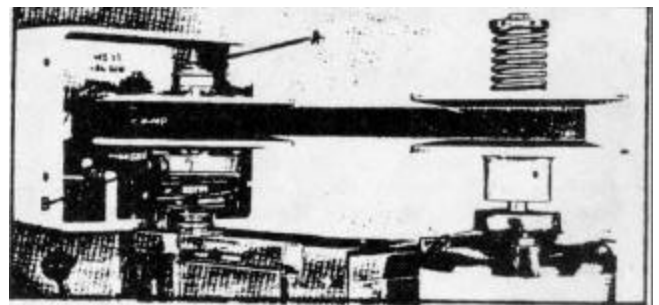
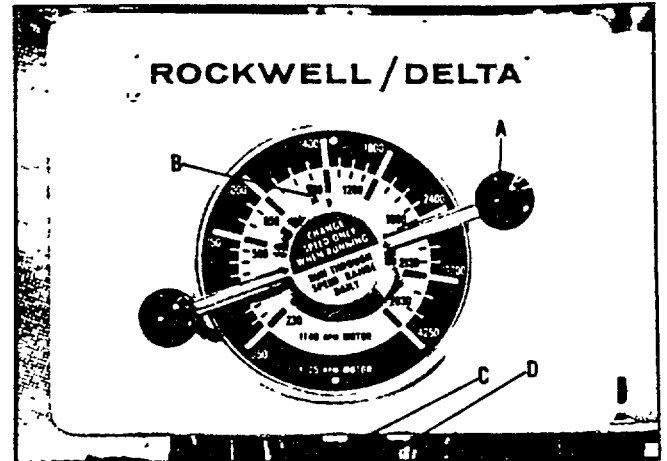

Fig. 14
Fig. 15
5. Loosen nut (A) Fig. 14. Then turn the pilot wheel until the pointer (B) Fig. 15, is set to the lowest speed. (350 rpm if a 1750 rpm motor is being used, or 230 rpm if an 1140 rpm motor is being used.) Now tighten nut (A) Fig. 14, just enough so that it adjusts the top half of the spindle pulley downward, until it just touches the lower pulley half. NOTE: This adjustment is made with the belt off.
6. Turn the pilot wheel until the pointer (B) Fig. 15, is set to the highest speed.
7. With a crow bar, raise the front end of the bracket (B) Fig. 14, in order to separate the two halves of the spindle pulley as far as possible. Put the belt on the spindle pulley, jerking it into the pulley to keep the two halves wedged apart, and remove the crowbar.
1. Turn on the motor and set the pointer (B) Fig. 15, to the lowest speed. (Either 350 or 230 rpm.)
2. Loosen the hex lock nut and then adjust screw (C) Fig. 15, to provide a positive stop for the pointer at the lowest speed. The best way is to turn the screw clockwise (up) until the pointer cannot be turned to the lowest speed, and then turn the screw counter clockwise (down) a little at a time until the pointer is stopped positively, just as it comes to the lowest speed. Tighten the hex lock nut.
3. Increase the speed until the pointer is set at the highest speed. (4250 or 2830 rpm.) Loosen the hex lock nut and adjust the screw (D) Fig. 15, until the spindle pulley is stopped from opening any additional amount, just as the pointer shows 4250 (or 2830) rpm. The pointer will go on past the mark, but there will be no actual change in spindle speeds or pulley opening beyond the movement allowed by stop screw (D), Fig. 15. Tighten the hex nut.
6. Turn on the motor and turn the pilot wheel (A) Fig. 15 counter clockwise, until the tachometer shows a speed of 350 or 230 rpm, depending on whether the motor runs at 1725 or 1140 rpm. Then, without changing speeds, adjust the pilot wheel so that the pointer shows exactly 350 (or 230) rpm. This adjustment is made as follows.
7. Unscrew and remove the two spokes (A) of the pilot wheel shown in Fig. 15. Then loosen the two set screws found in the holes thus exposed in the hub of the pilot wheel and rotate the hub so that pointer (B) indicates the lowest speed on the dial. Tighten the two set screws and replace the two spokes.